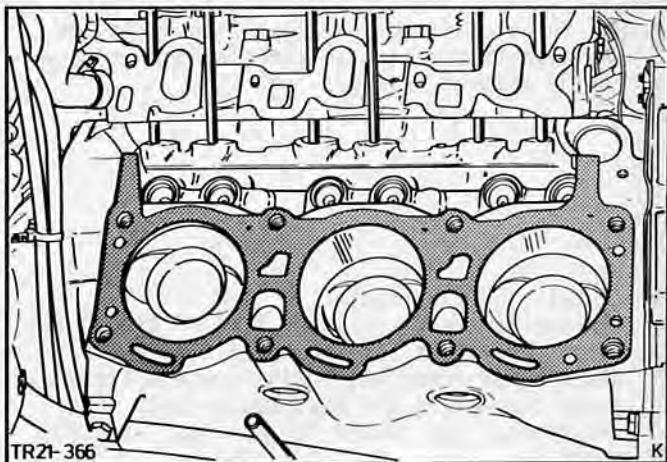

Fig.79. Locate cylinder head gasket.
17. Clean the mating surfaces (inlet manifold - cylinder heads - cylinder block) and locate new cylinder head gasket over the locating sleeves on the cylinder block, Fig.79.